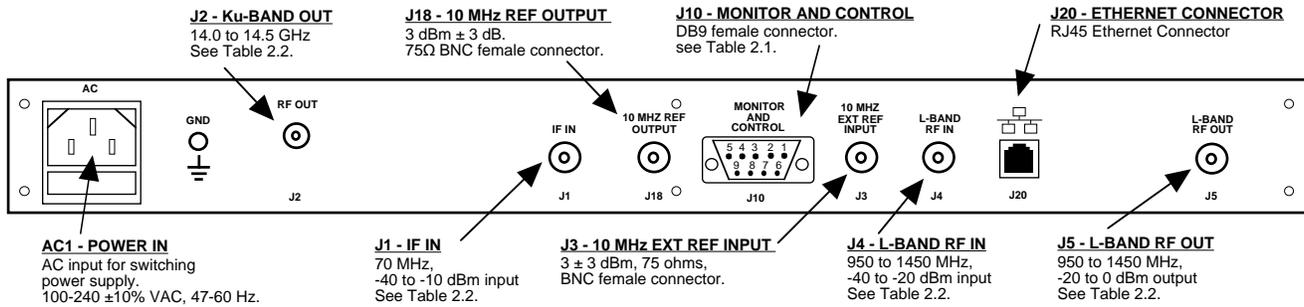

FIGURE 2.1 2015-03U140 Rear Panel I/O's
2.2 Rear Panel Input/Output Signals - Figure 2.1 shows the input and output connectors on the rear panel.
1. Connect a -40 dBm to -10 dBm signal to IF In, J1 (Figure 2.1).
9. Options -V, -V41, -V48 only - To insert SSPB Voltage, +24, +V48 VDC on the RF center pin install 2.5A fast blo fuse in F2 and check that DS7 lights yellow (Figure 2.1).